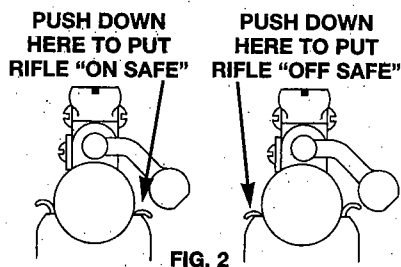

FIG. 2
NOTE: BE SURE THE RIFLE IS "OFF SAFE" BEFORE COCKING (Fig. 2). FAILURE TO FOLLOW THE PROCEDURE LISTED BELOW MAY RESULT IN JAMMING THE FIRING MECHANISM.
⚠ WARNING: THE RIFLE MUST BE COCKED BEFORE YOU CAN PUT IT "ON SAFE." (Fig. 2)
- To take the air rifle "Off Safe", push down on the left thumb button marked "F". The airgun is now ready to be fired. (Fig.2)